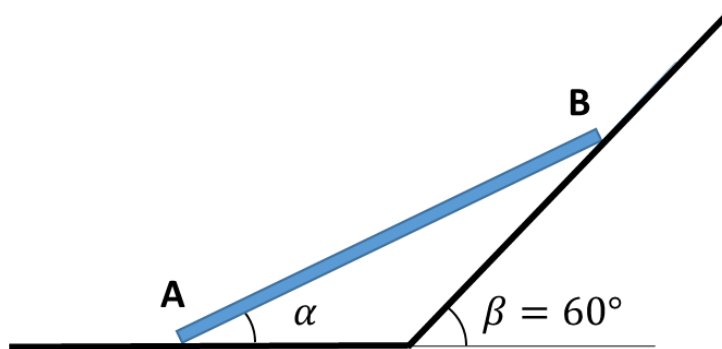

FIGURE Q1
1. FIGURE Q1 shows a rigid bar AB, of length L , that slides down an incline. At the instant shown end A is sliding along a horizontal plane and end B is sliding along an inclined plane ($\beta = 60^\circ$).